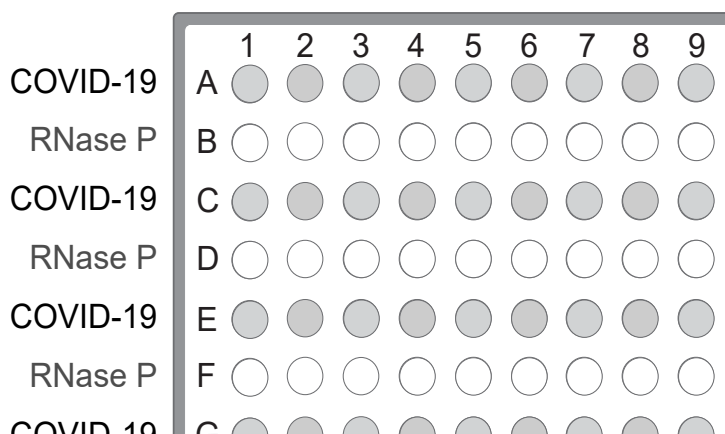

Figure 1 Assays in alternating plate rows
- a. Starting with row A, pipet 15.0 μ L per well of the COVID-19 Reaction Mix into every other row of a MicroAmp™ Fast Optical 96-Well Reaction Plate with Barcode, 0.1 mL or a MicroAmp™ Optical 96-Well Reaction Plate with Barcode, 0.2 mL. See Figure 1 on page 55.